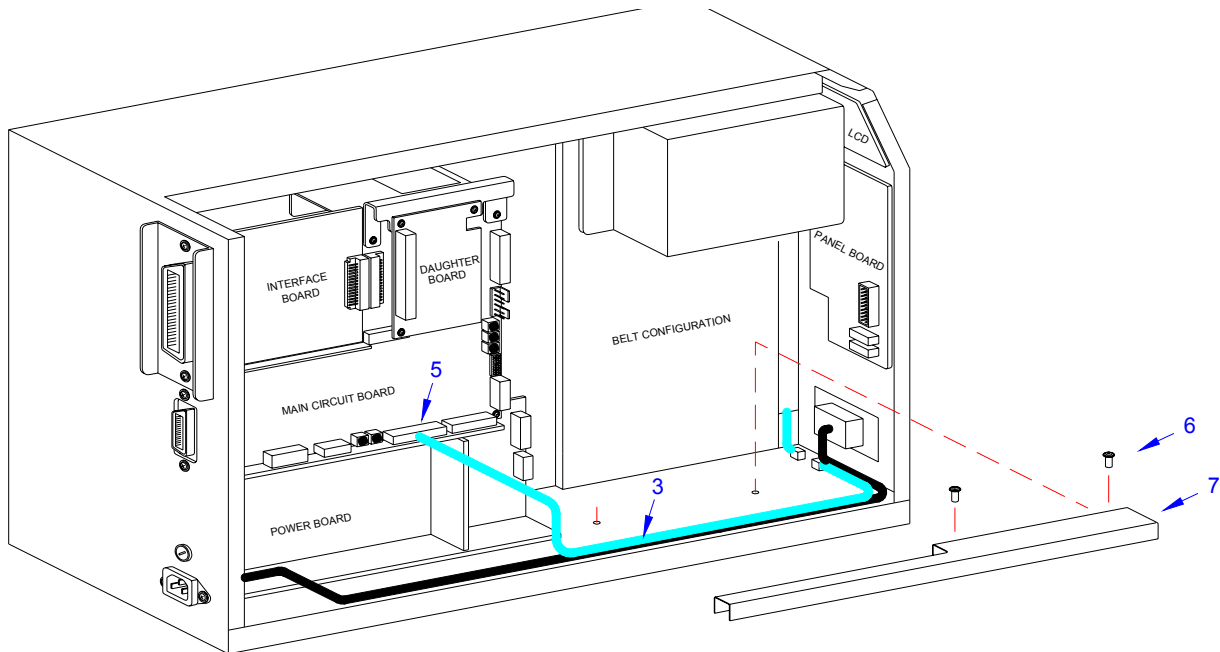

Figure 4-2c, Dispenser Installation
- 7 Connect dispenser wiring harness (3, Figure 4-2c) with free end of wiring harness connected to CN10 port (5) of main circuit board.